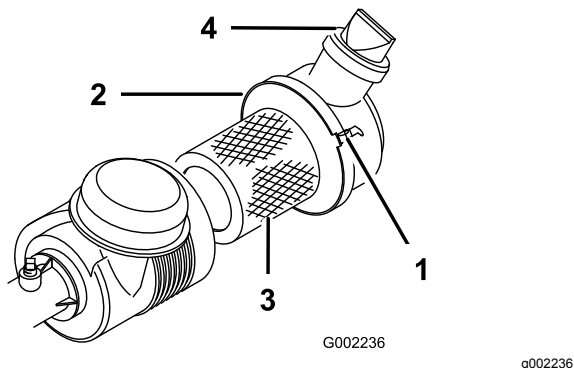

Figure 39
Check the air cleaner body for damage that could cause an air leak. Ensure that the dust cap is tightly sealed onto the air cleaner. Replace a damaged air cleaner body. Squeeze the valve (Figure 39) before each use to clear it of dust and debris. Service the air cleaner filter every 100 hours.
3. Loosen the air cleaner strap that secures the air cleaner cover to the air cleaner body (Figure 39) and separate the cover from the body.
7. Secure the straps (Figure 39).
4. Install the cover with the valve pointing down and secure the straps (Figure 39).